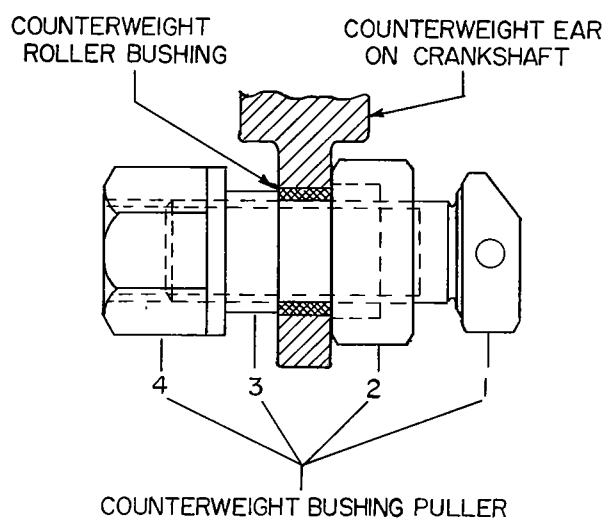

Figure 7-9. Removal of Crankshaft Counterweight Bushing
1. (See figure 7-9). Thread the bolt of the counterweight bushing puller P/N 64872 through the puller plate (2) so that the recess of the plate will be next to the crankshaft lobe when bolt is inserted through the crankshaft counterweight bushing. Install the small puller bushing (3) over end of bolt and install nut (4) on bolt. As the nut is tightened on the bolt, the counterweight bushing will be pushed out of its recess in the crankshaft counterweight mounting lobe and into the recess of the puller plate.